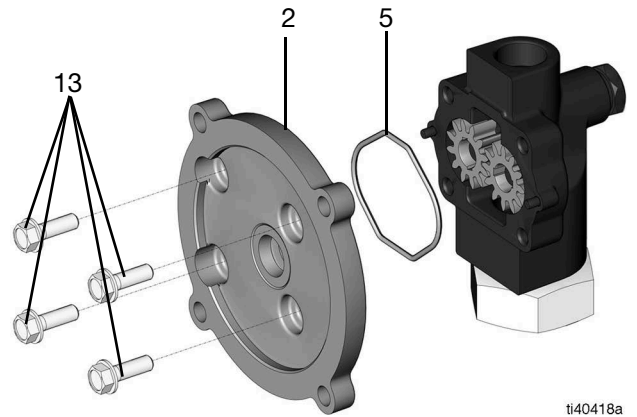

FIG. 10
7. Remove four screws (13) on the adapter plate (2) using a 1/2 in. socket wrench (FIG. 10).
8. Remove the adapter plate (2) (FIG. 10).
9. Remove the o-ring (5) (FIG. 10).
4. Push the four screws (13) through the adapter plate (2) and use a 1/2 in. socket wrench to tighten (Torque 142 in-lb, 16 N•m) (see FIG. 10).